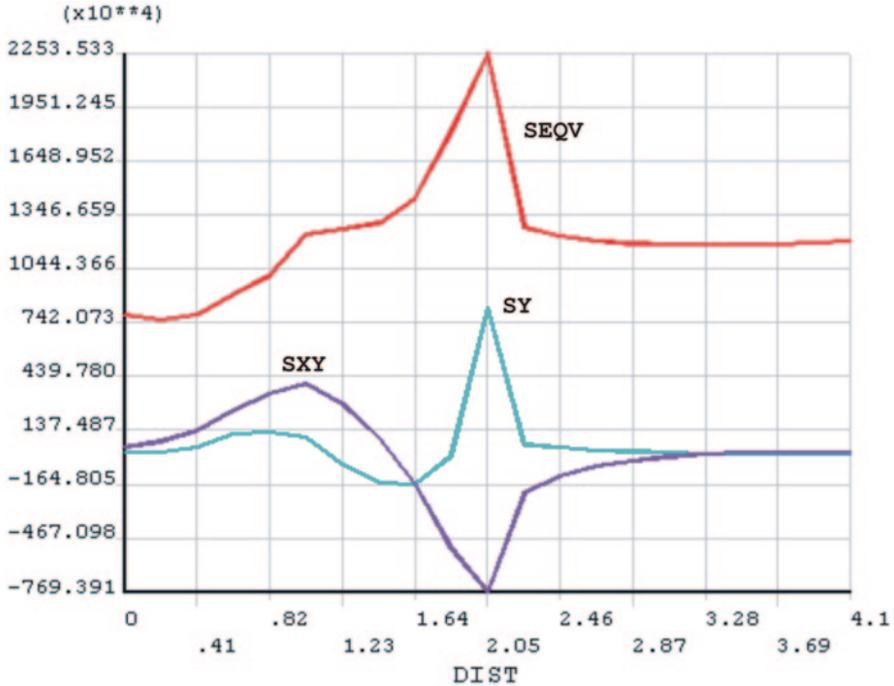

Fig. 8.66 Line plots of σ_{yy} , σ_{xy} , and σ_{eqv} along path V1
- Figure 8.66 shows the resulting line plot.